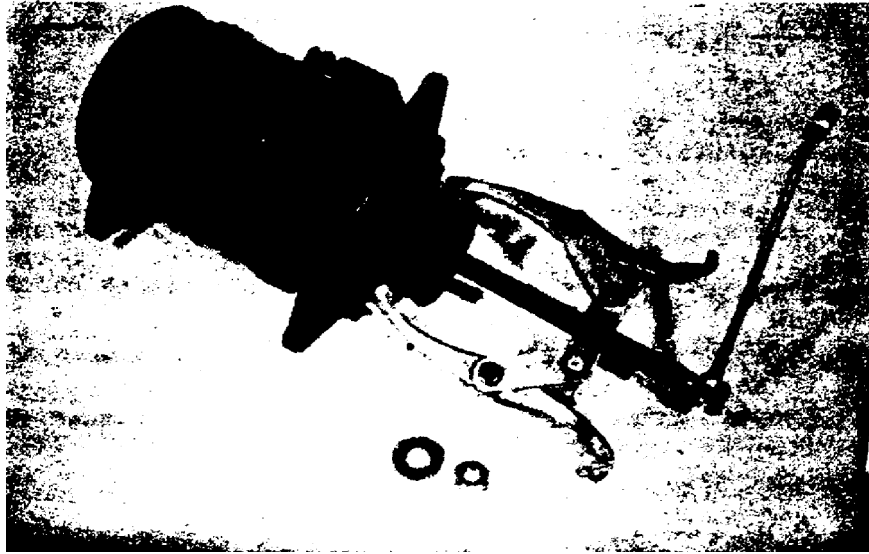

Figure 6. Removing pulley.
- b. Remove pulley using puller (fig 6).